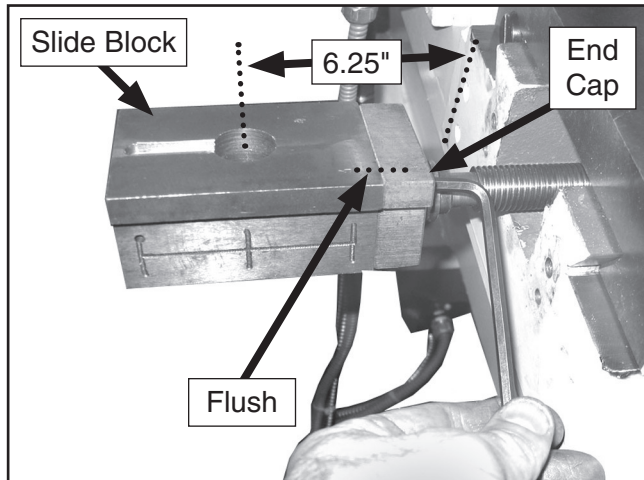

Figure 11. Slide block installation.
- Using a 5mm hex wrench, secure the slide block onto the end cap with the two previously removed cap screws (**Figure 11**).
Note: Make sure that the top of both slide and end cap surfaces are flush with one another after tightening the cap screws (**Figure 11**).
- Pull or push the cross slide assembly so the center of the pivot pin bore is 6.25" from the carriage face (**Figure 11**).